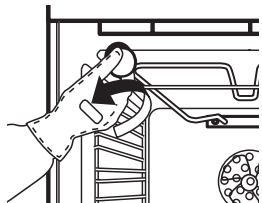

Fig. 5
2. Unscrew the lamp cover (Fig. 5), replace the lamp (see note for lamp type) and